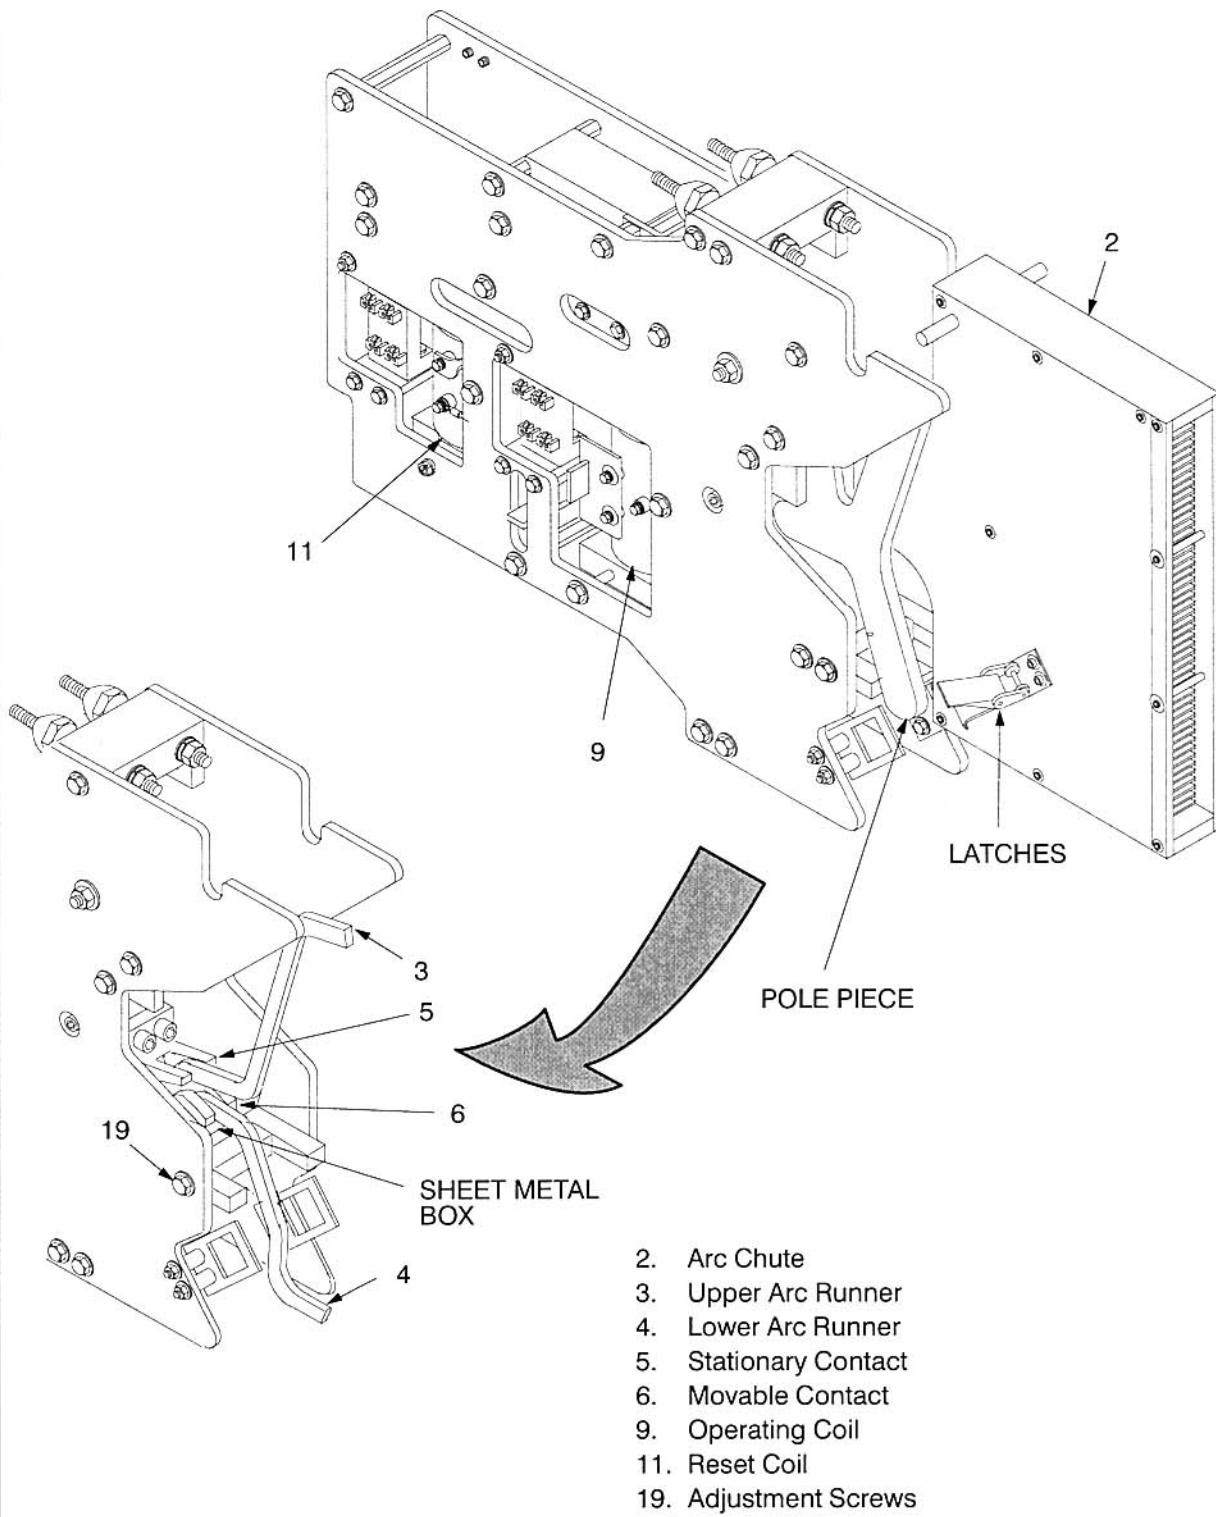

Figure 7–142 Inspect/Check Line Breaker
- a. Inspect relay (reference Figure 7–143) for obvious physical damage such as broken or missing parts. If found, replace relay.
- c. If coil (5) is swollen or burnt, replace relay.